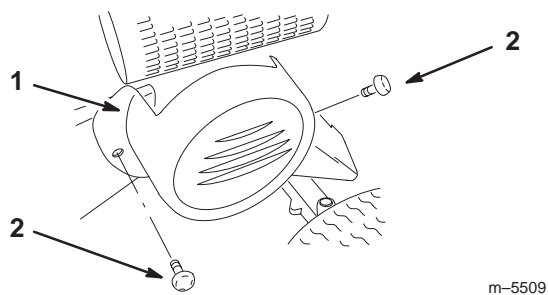

Figure 32
1. Remove the two knobs and belt cover from the tractor (Fig. 32).
- Install belt cover (Fig. 32).